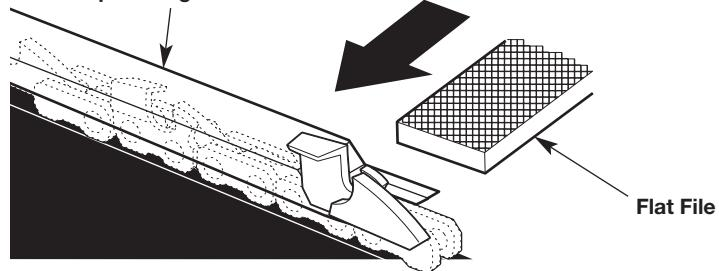

Fig. 34
3. Use a depth gauge tool (not included) to measure the depth gauge clearance (Fig. 34) of each cutter. The depth gauge clearance must be maintained at 1/32 inch (0.6 mm). The depth gauge clearance determines the depth at which the cutter enters the wood during operation and the size of the wood chips produced. Too much clearance increases the chance of kickback. Too little clearance decreases the size of the wood chips, thus decreasing the ability to cut.
- Use a 0.025 inch (0.635 mm) depth gauge jointer and a flat file (tools not included) to lower the depth gauge to the correct clearance (Fig. 34).